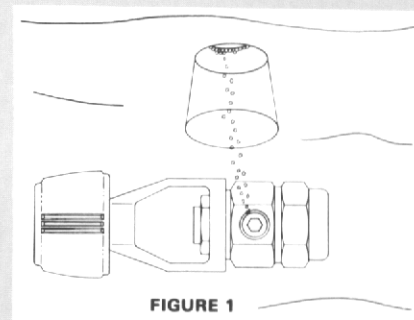

FIGURE 1
3. Bleed Air Test—a small stream of bubbles should be escaping from the one-way check valve only. Number and size of bubbles may vary but the amount of escaping bubbles should be equal to 13-17 c.c. per minute. To check this, invert a 1 oz. container over the escaping bubbles under water (Figure 1)*. The water displaced will slowly empty the glass. It should take approximately two minutes to completely empty a 1 oz. container. If